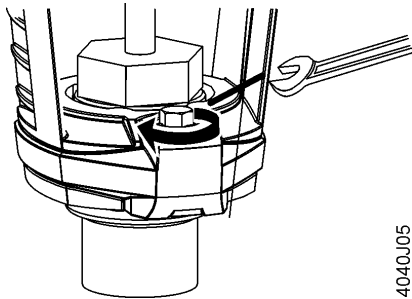

Figure 7.
5. Tighten the U-bracket bolt using a 10 mm wrench (or 4 mm hex key) to 5 Nm (44 in-lbs) torque. See Figure 7.